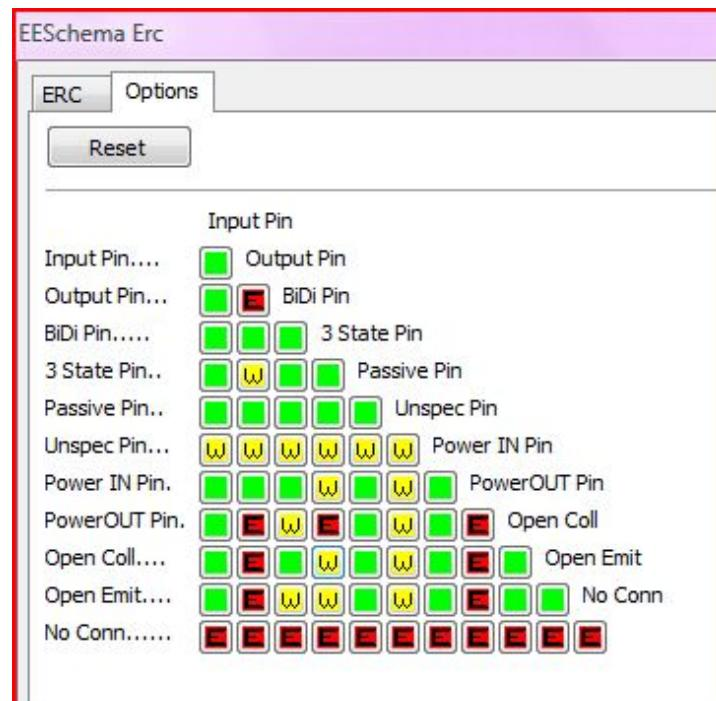

Figure 17.1: ERC Table
- User can actually decide what you want to be told about, by setting the table below accordingly. For instance if the user wanted the ERC to throw an error if an input was connected to an input then the user would change the topmost box from green (no message) to yellow (warning) or red (error) as shown in Fig. 17.1